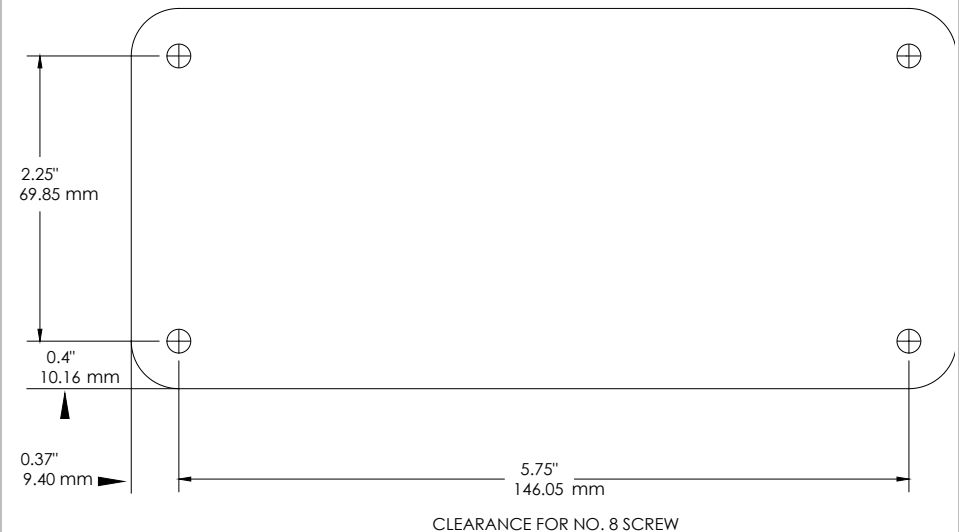

FIGURE 1
3. Mounting the ACP Hardwire Series: See Figure 1.